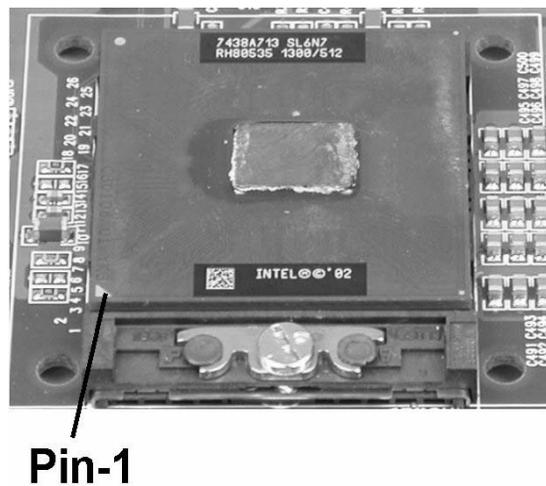

Figure 3-32: Processor Pin-1 Orientation
6. Before installing a new processor, make sure the socket remains in the unlocked position. Refer to Figure 3-32 to ensure Pin-1 (denoted by a triangle symbol) is oriented as shown.